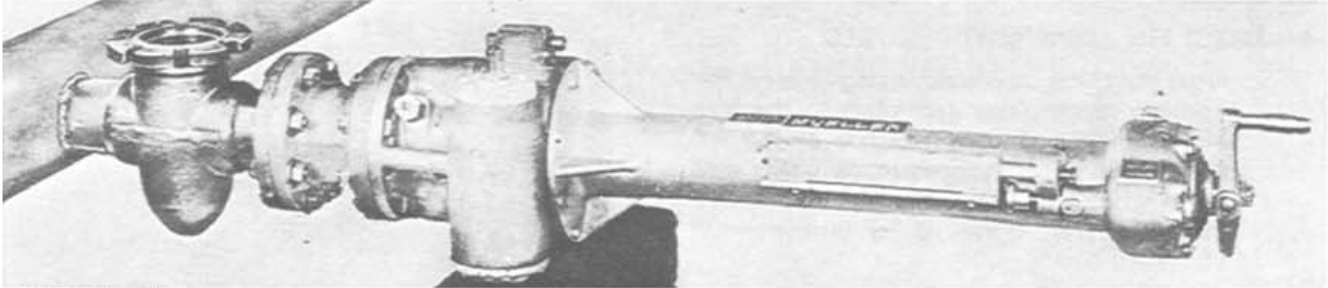

FIGURE 46
- a. If using H-17252 or H-17253 fittings, attach the proper size companion flange to the outlet end of the fitting and bolt the adapter solidly to it. **Figure 46.** Tack weld the companion flange or block the drilling machine to prevent the companion flange from unscrewing.